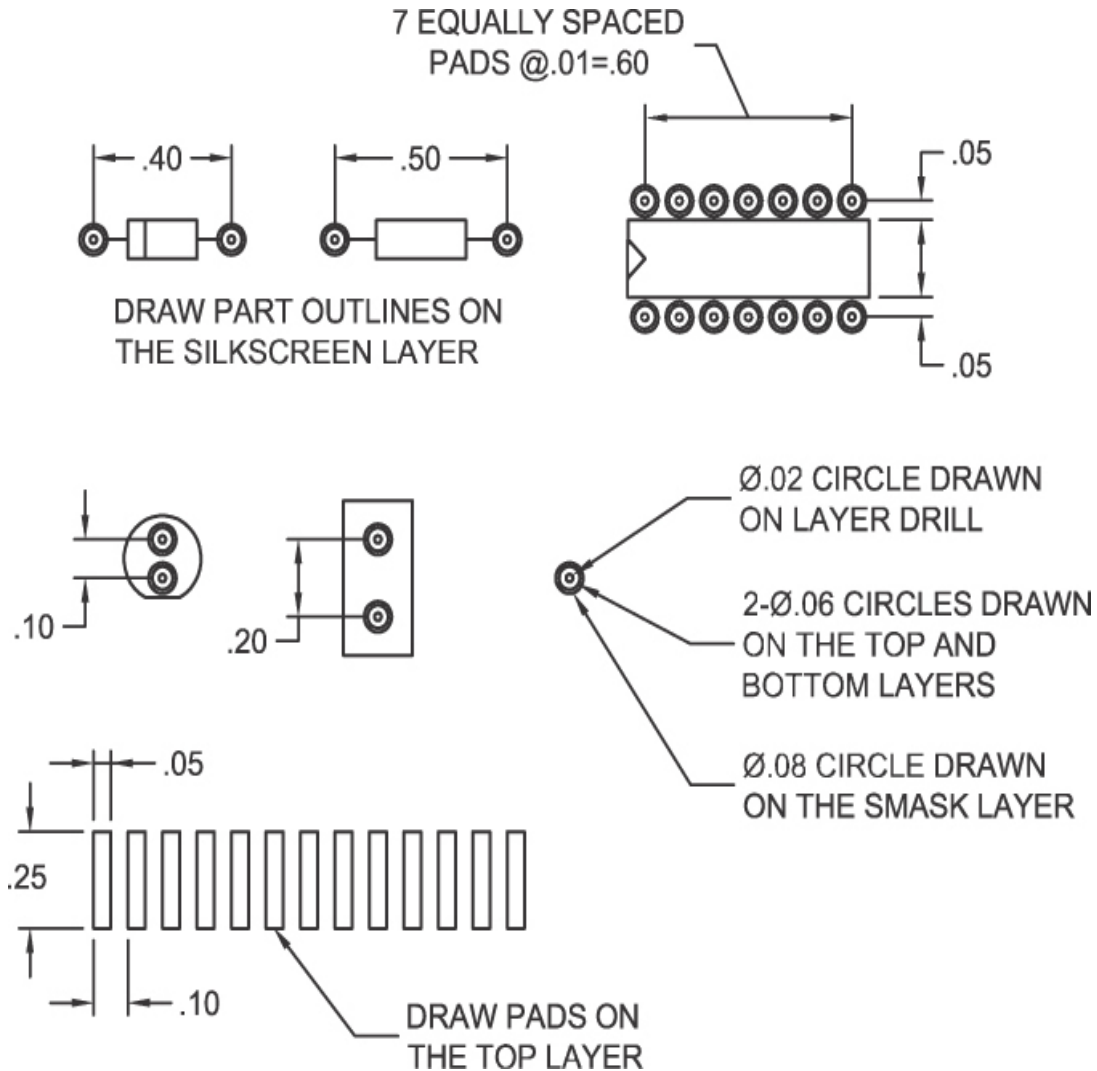

Figure 9-48
3. With **Snap** mode turned on, draw the parts shown in Figure 9-48. Each round pad consists of a 0.060"-diameter circle on the **Top** layer, a 0.020"-diameter circle on the **Drill** layer, and another 0.060"-diameter circle on the **Bottom** layer. The center of each pad should be placed on a grid point.